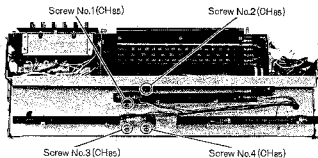

Fig. 17
2. Remove the four (4) rear cover screws (nos. 1~4), as shown in fig. 17.